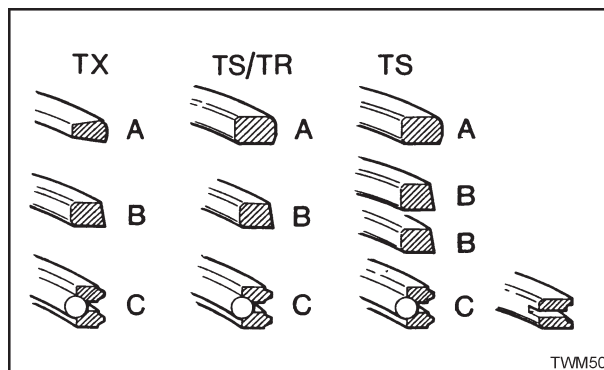

Figure 2.40.1 Piston Rings
3. Fit the piston rings in the order as shown in 'Figure 2.40.1'